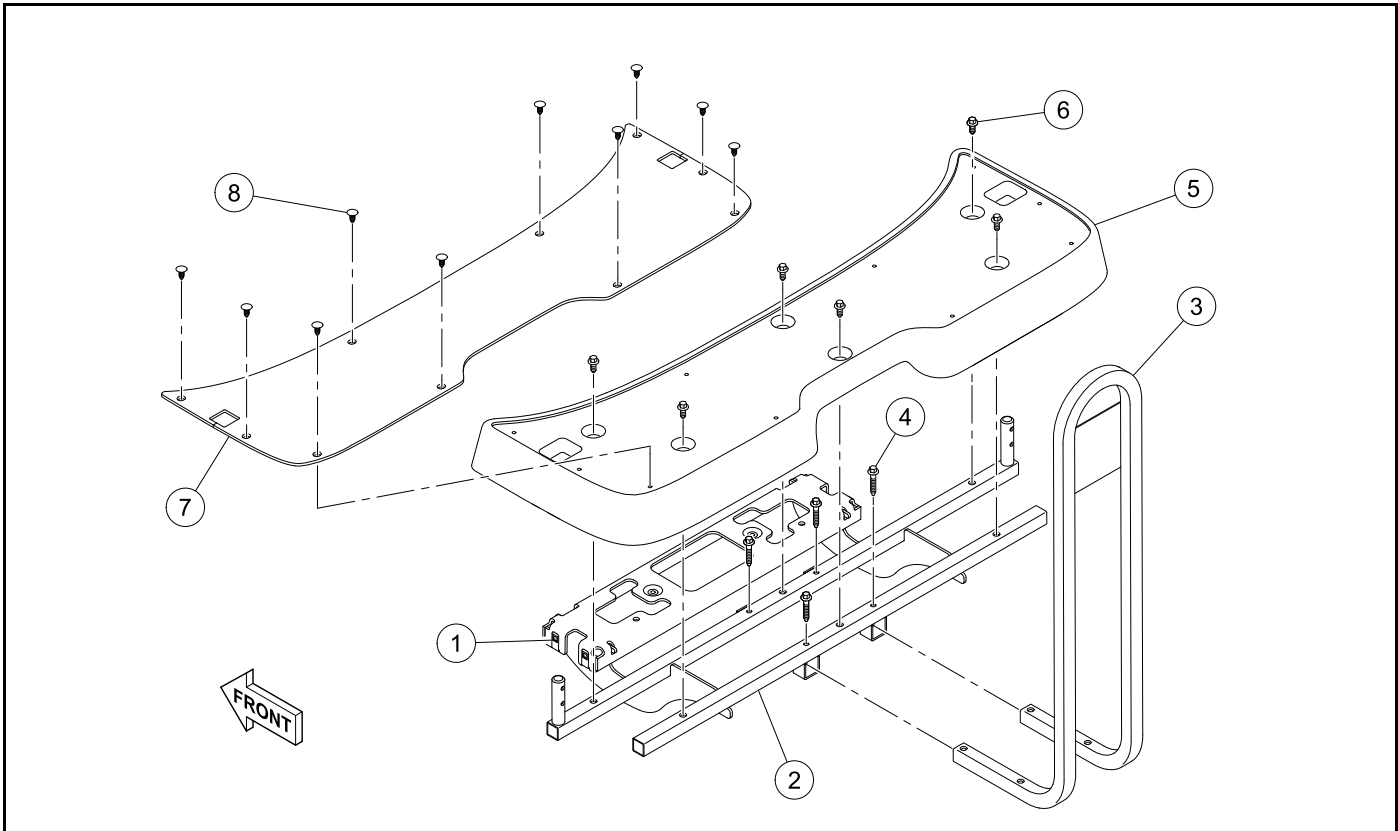

Figure 4-54 Foot Deck (2+2) Assembly
1. Make sure the J-clips (1) are installed on the foot deck support (2) (**Figure 4-54**).
2. Install the handrail (3) into the foot deck support.
3. Install the screws (4). Tighten the bolts to 5.5 lb·ft (7.5 N·m).
4. Install the foot deck (5) onto the foot deck support.
5. Install the screws (6). Tighten the screws to 6 lb·ft (8 N·m).
6. Install the floor mat (7) onto the foot deck.
7. Install the push rivets (8).